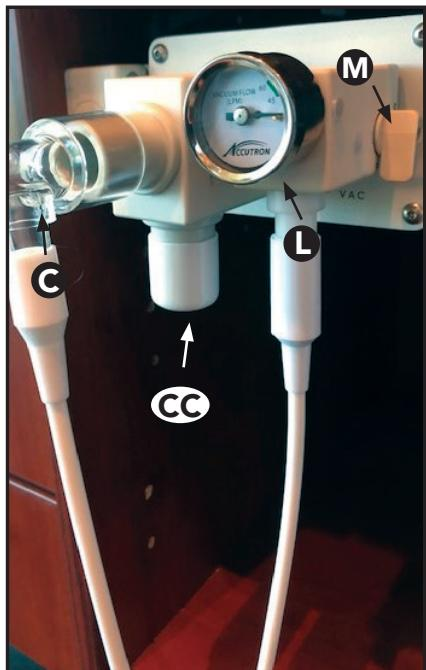

Figure 3
1. Remove the reservoir bag from the flowmeter and install the plug **CC** per Figures 3, 5 and 8. Note: Plug will pop off if the gas flow line is kinked or blocked.
3. Connect right angle adapter **C** to bag tee outspout per Figures 3, 5 and 8.
4. **RFS™ Scavenging Circuits:** Connect the Axess™ RFS Circuit to the RFS Outlet per Figure 3. Fittings are sized to only fit one way.